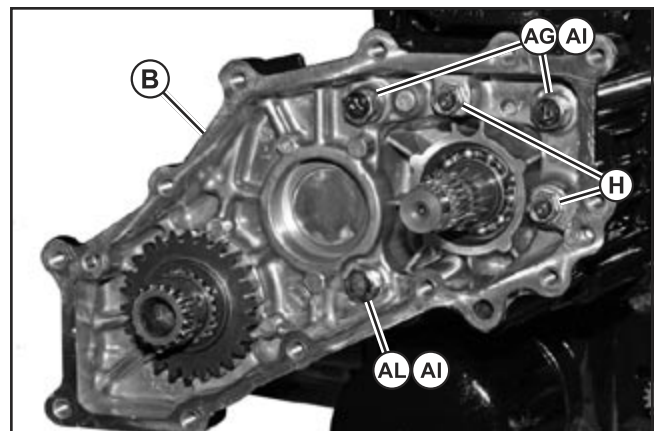

Fig. 51, 4WD Cover Removal
18. From the 4WD gear case (B), remove (2) bolts with washers (AG and AI). Remove (2) bolts (H) and (1) bolt with washer (AL and AI). (Fig. 51)